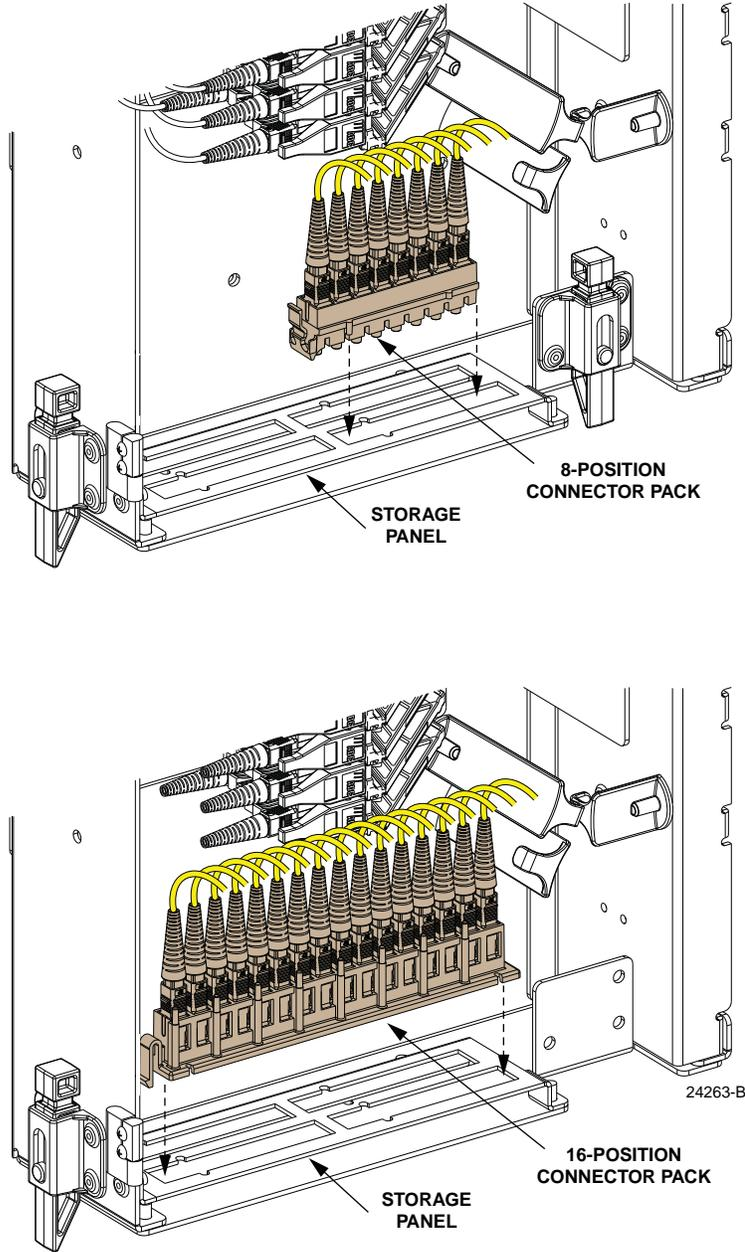

Figure 56. Install Connector Pack Into Storage Panel
2. Insert the connector pack into the unused slot in the storage panel as shown in Figure 56. The storage panel can accommodate four 8-position connector packs or two 16-position connector packs. Refer to the FDH 3000 Plug and Play Splitter